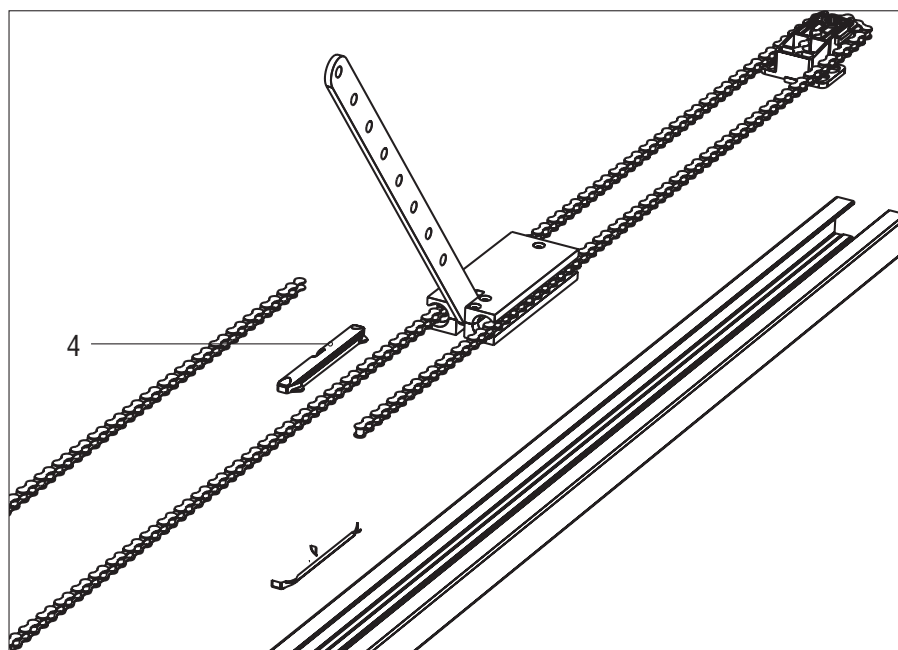

Figure 4
5. Disassemble a support, pos. 4, into two parts (Fig. 4).